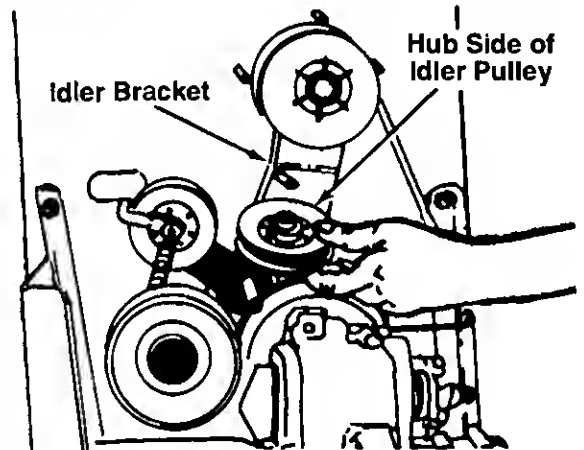

FIGURE 22.
10. Upon reassembly of idler pulley, be certain the hub side of idler goes against the idler bracket. See figure 22.